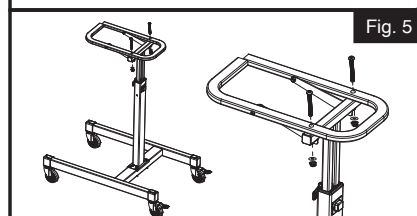

Fig. 5
7. Install the tool table frame onto the support frame assembly as shown. Fasten using two M6 screws, M6 washers and M6 lock nuts. (Fig. 5)